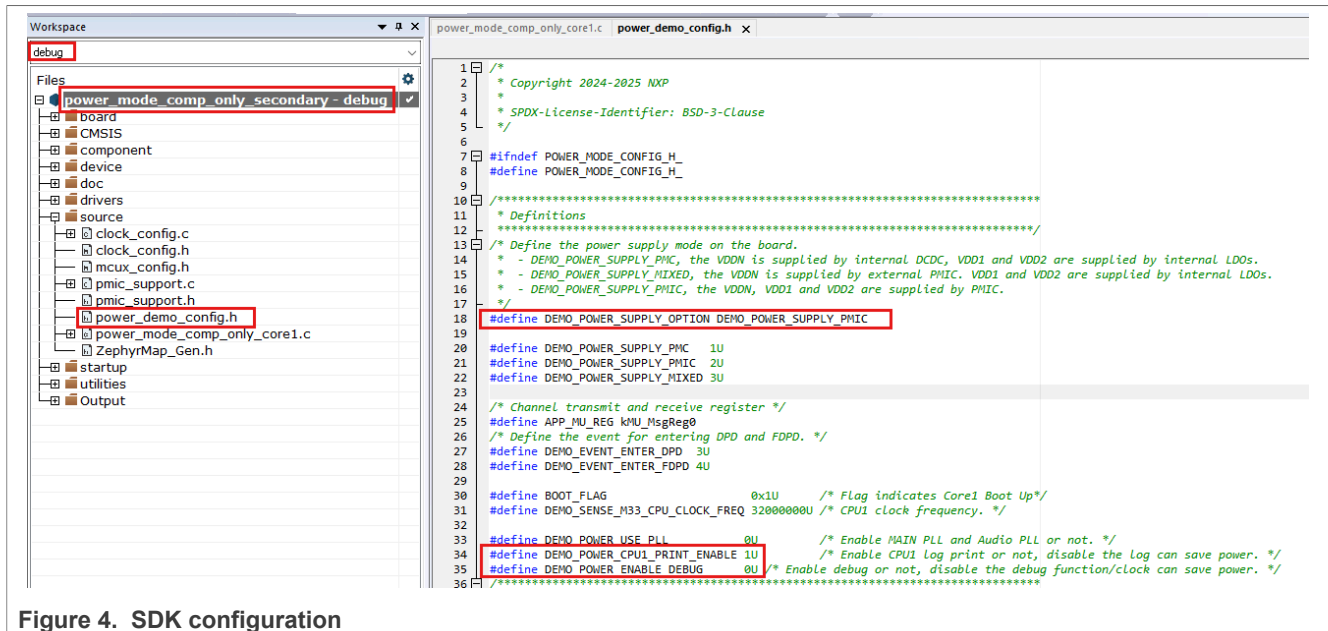

Figure 4. SDK configuration
4. Modify **DEMO_POWER_SUPPLY_OPTION**, **DEMO_POWER_CPU1_PRINT_ENABLE**, and **DEMO_POWER_ENABLE_DEBUG** as shown in Figure 4. Compile the secondary project.
5. The different SDK versions can have different default configurations. If you are using the different SDK version, modify the SDK to the configuration shown in Figure 4.
- Ensure that you do the same changes in `power_demo_config.h` in the primary project, as shown in Figure 4.